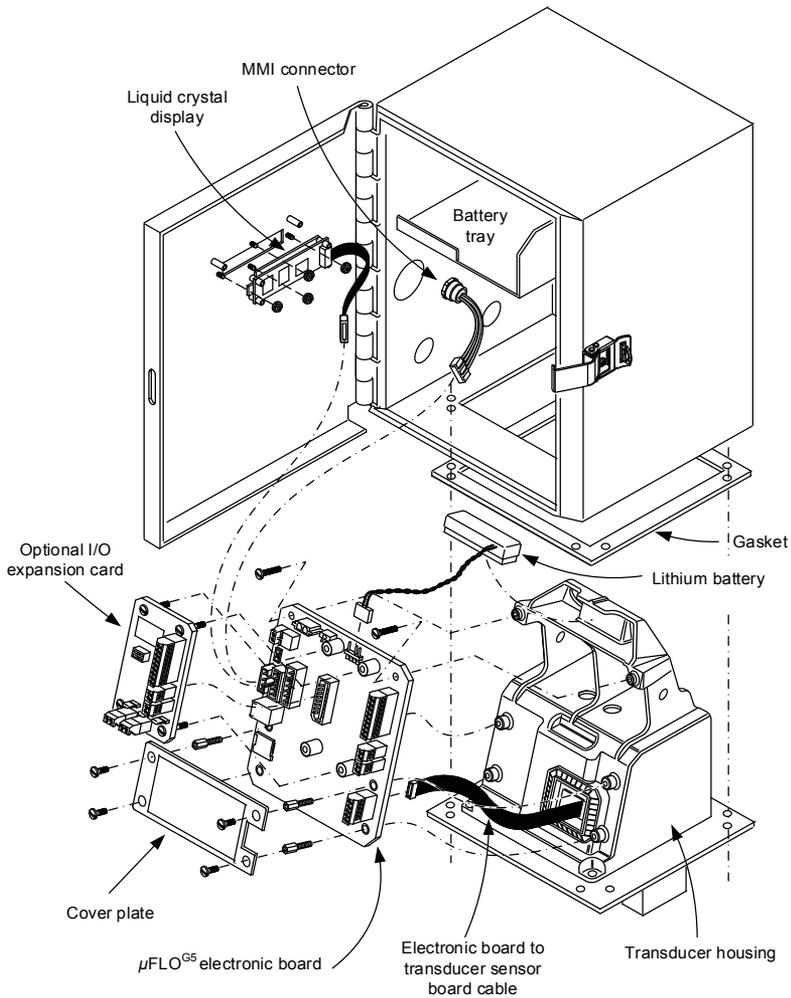

Figure 5: *μFLOG⁵ assembly, exploded view*
6. Using a ¼ inch hex driver, remove the six (6) hex standoffs that attach the μ FLO^{G5} electronic board to the transducer housing.
7. Loosen the lithium battery unit from the head of the transducer assembly (Figure 5, *μFLOG⁵ assembly, exploded view*, page 11). The battery will need to remain connected to, and moved with, the electronic board.
- a. Using a phillips screwdriver, remove the eight (8) mounting screws, washers and lock washers, located on the bottom of the enclosure, that secure the IMV to the μ FLO cabinet (Figure 5, μ FLOG5 *assembly, exploded view*, page 11). Be careful not to drop the screws.
- a. On the old transducer assembly, remove the cover plate and set aside separately to reinstall on the old transducer assembly after the board has been transferred (Figure 5, *μ FLOG5 assembly, exploded view*, page 11).
- b. On the old assembly, use a ¼ inch socket driver to remove the six (6) hex standoffs that attach the μ FLO^{G5} electronic board to the transducer housing.
- a. On the new transducer assembly, use a phillips screwdriver to remove the four (4) screws that secure the transducer cover plate containing the new transducer information. Remove and set the plate aside.
- d. Using a ¼ inch socket driver, reinstall the six (6) hex standoffs and tighten.